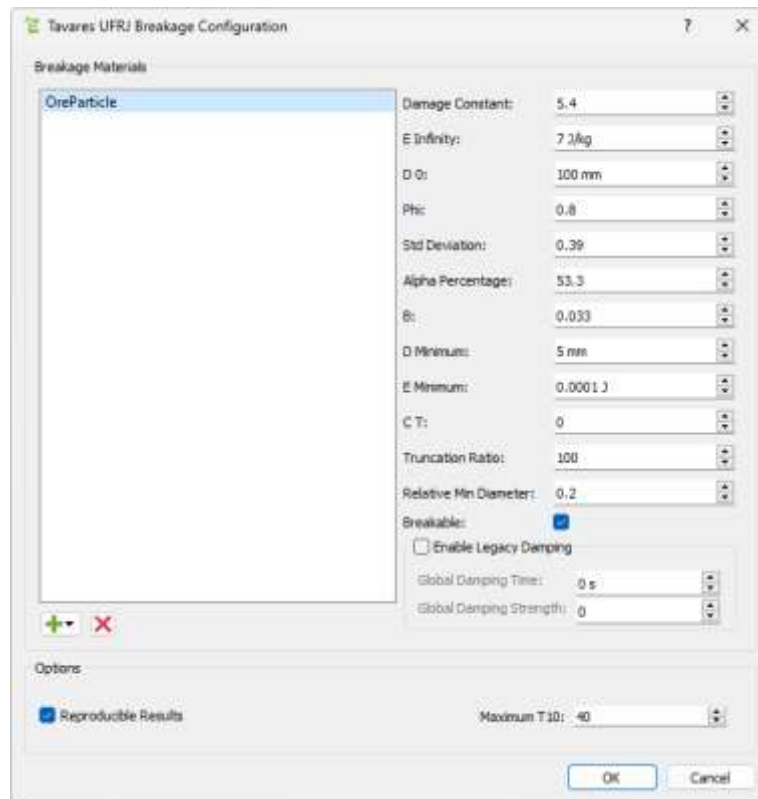

Figure 4. Breakage configuration
- a. In the new window, click on the plus button and select **OreParticle** then set the breakage parameters according to Figure 4. Since only the OreParticle is allowed to break, we just need to set its breakage parameters.